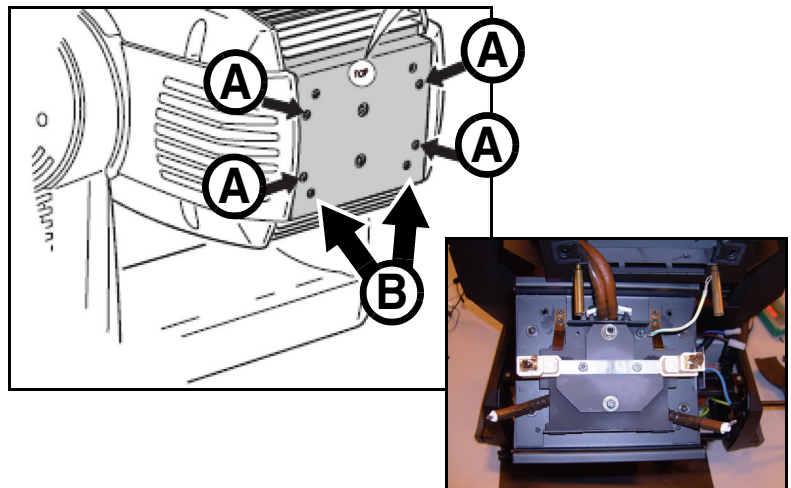

Figure 50
55. See Figure 50. Release the 4 quarter-turn screws (A) in the rear lamp housing cover. Open the cover and remove the lamp. Remove the two Torx 20 cover retaining screws (B) to release the lampholder/rear cover assembly and let it hang from the lamp leads and ground lead (the photo shows the lamp leads already released from their terminals, but you will release them in the next step). Keep the rear cover retaining screws for re-use.